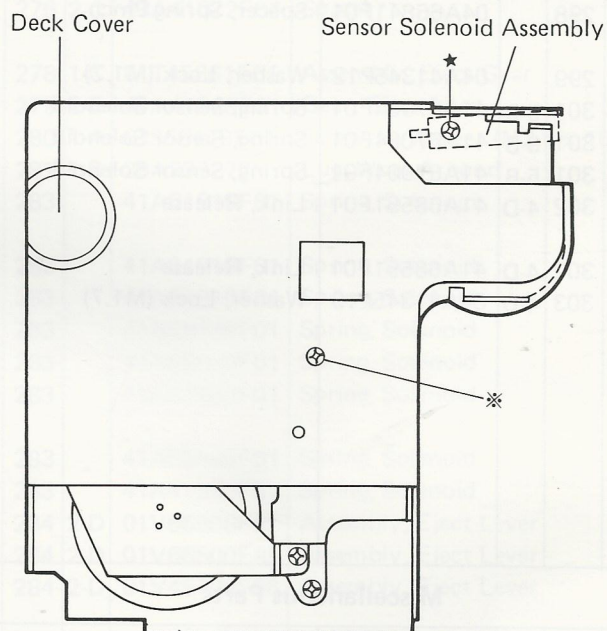

Figure 2
- (1) Remove one screw marked "※" as shown in Figure 2.
- (1) Remove one screw marked "★" as shown in Figure 2 and the sensor solenoid can be removed.
- (2) After replacing the sensor solenoid with a new one, install it in the opposite way to disassembly.
6. Replacement of Pinch Roller Assembly (L)